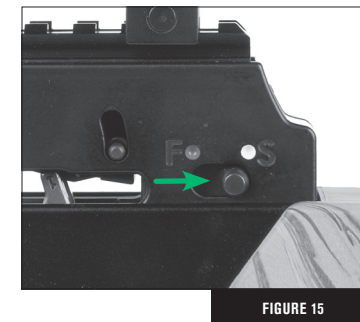

FIGURE 15
To manually engage the safety, slide the safety switch (Part 2) backwards until you hear and feel the safety switch click into place. Confirm that the safety switch has moved from under the (F)IRE position and the red dot to under the (S)AFE position and the white dot, as illustrated in Figure 15.